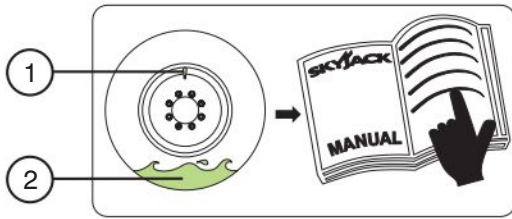

Figure 2-14. Tire Sealant Label
- When depressurizing, inflating or checking tire pressure, ensure that the valve stem is at the top to prevent sealant from entering the stem (refer to Figure 2-14).